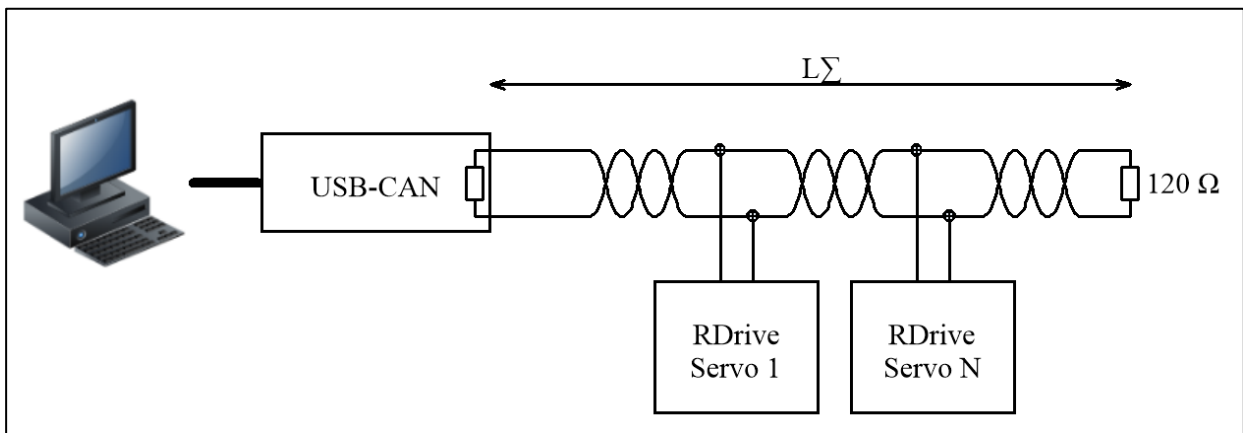
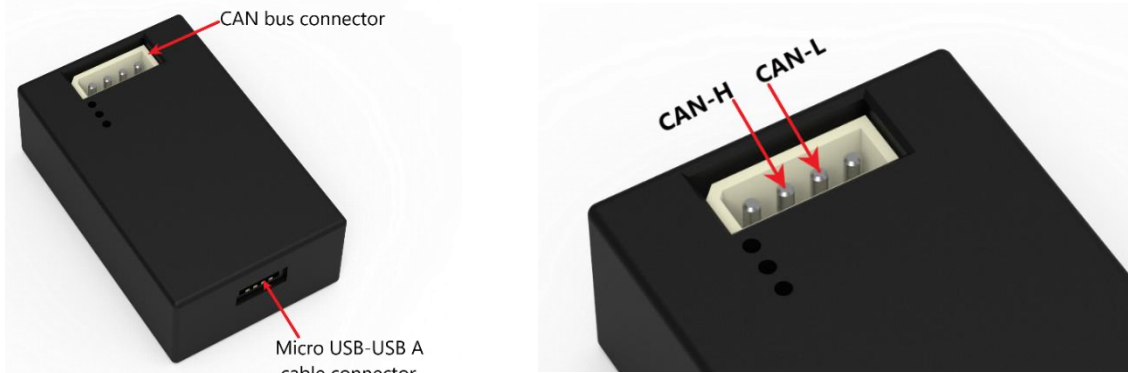

Figure 4-2: CAN-to-PC connection to control servos via API
Figure 4-3: Connectors on the USB-CAN dongle
- In case servo control is via API, provide a CAN-to-PC connection as shown in **Figure 4-2**.
The connection is in accordance with the diagram as shown in **Figure 4-2**, taking into consideration the arrangement of connectors on the USB-CAN dongle (see **Figure 4-3**). To provide the connection, use the cable on the input flange of the servomotor: the brown one corresponds to CANHIGH, and the blue one — to CANLOW.